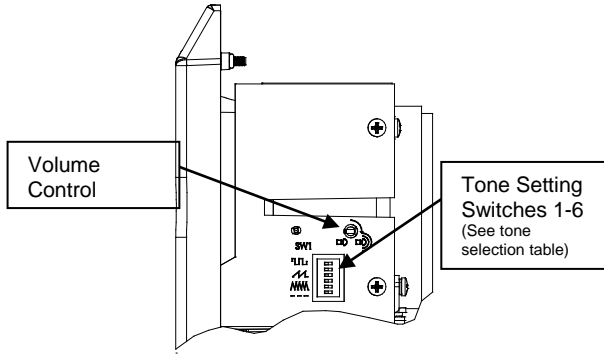

Fig. 2 Location of field controls
- Select the required output tone by positioning the six switches as shown in Table 1 and Fig 2.
The alarm horn output level of the D2x1 unit can be set by adjusting the volume control potentiometer (see Fig 2). For maximum output, set the potentiometer fully clockwise.
The D2xS1 alarm horns have 64 different tones. The tones are selected by operation of the tone setting DIP switches (see Fig. 2) on the PCB. The alarm horns can also be switched to sound the second, third and fourth stage alarm tones. The tone table (Table 1) shows the switch positions for the 64 tone and which tones are available for the second, third and fourth stages.
**Tone Selection** – To select the required first stage tone set the tone switches 1 to 6 (see Fig 2) to the tone setting shown in the table below. The table also shows which 2nd, 3rd and 4th stage tones are available for use with the selected first stage tone if more than one tone output stage is required.